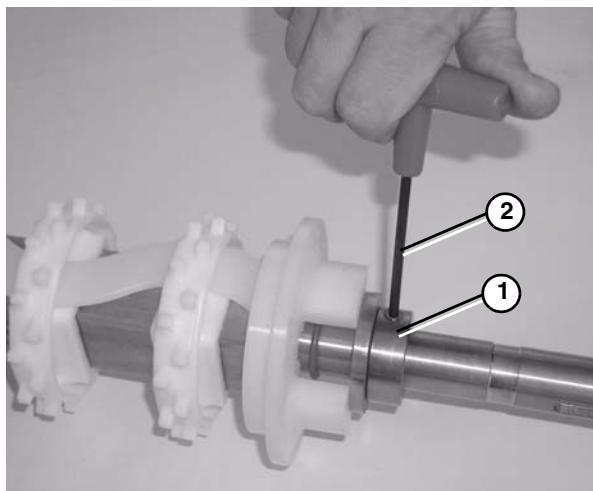

Figure 79
- Slide the retaining ring (**Figure 79, item 1**) onto the drive spindle. Leave a slight gap between ring and washer to allow flanged puck to spin freely.
- Tighten the retainer ring fastener using a hex wrench (**Figure 79, item 2**).